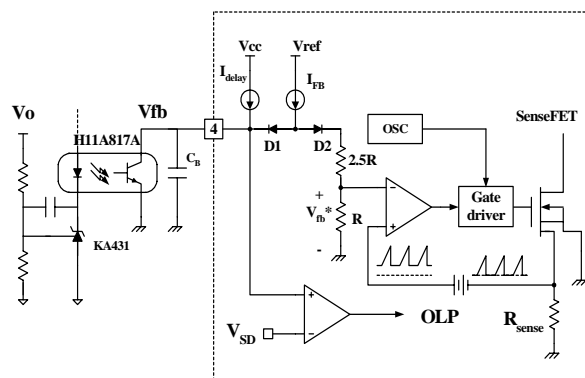

Figure 5. Pulse Width Modulation (PWM) Circuit
**2. Feedback Control :** FSES0765RG employs current mode control, as shown in figure 5. An opto-coupler (such as the H11A817A) and shunt regulator (such as the KA431) are typically used to implement the feedback network. Comparing the feedback voltage with the voltage across the Rsense resistor plus an offset voltage makes it possible to control the switching duty cycle. When the reference pin voltage of the KA431 exceeds the internal reference voltage of 2.5V, the H11A817A LED current increases, thus pulling down the feedback voltage and reducing the duty cycle. This event typically happens when the input voltage is increased or the output load is decreased.
**2.1 Pulse-by-pulse Current Limit:** Because current mode control is employed, the peak current through the Sense FET is limited by the inverting input of the PWM comparator ( $V_{fb}^*$ ) as shown in figure 5. Assuming that the 0.9mA current source flows only through the internal resistor ( $2.5R + R = 2.8 k\Omega$ ), the cathode voltage of diode D2 is about 2.5V. Since diode D1 is blocked when the feedback voltage ( $V_{fb}$ ) exceeds 2.5V, the maximum voltage of the cathode of D2 is clamped at this voltage, thus clamping  $V_{fb}^*$ . Therefore, the peak value of the SenseFET current is limited.